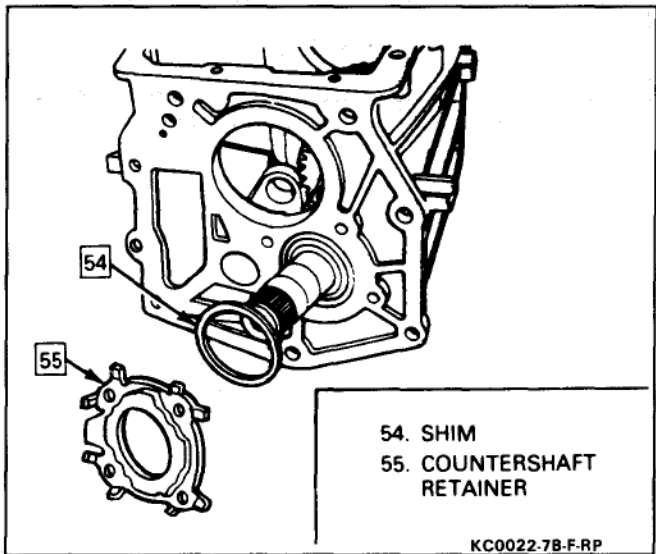

Figure 16 Countershaft Retainer
23. Countershaft retainer and shims (Figure 16).